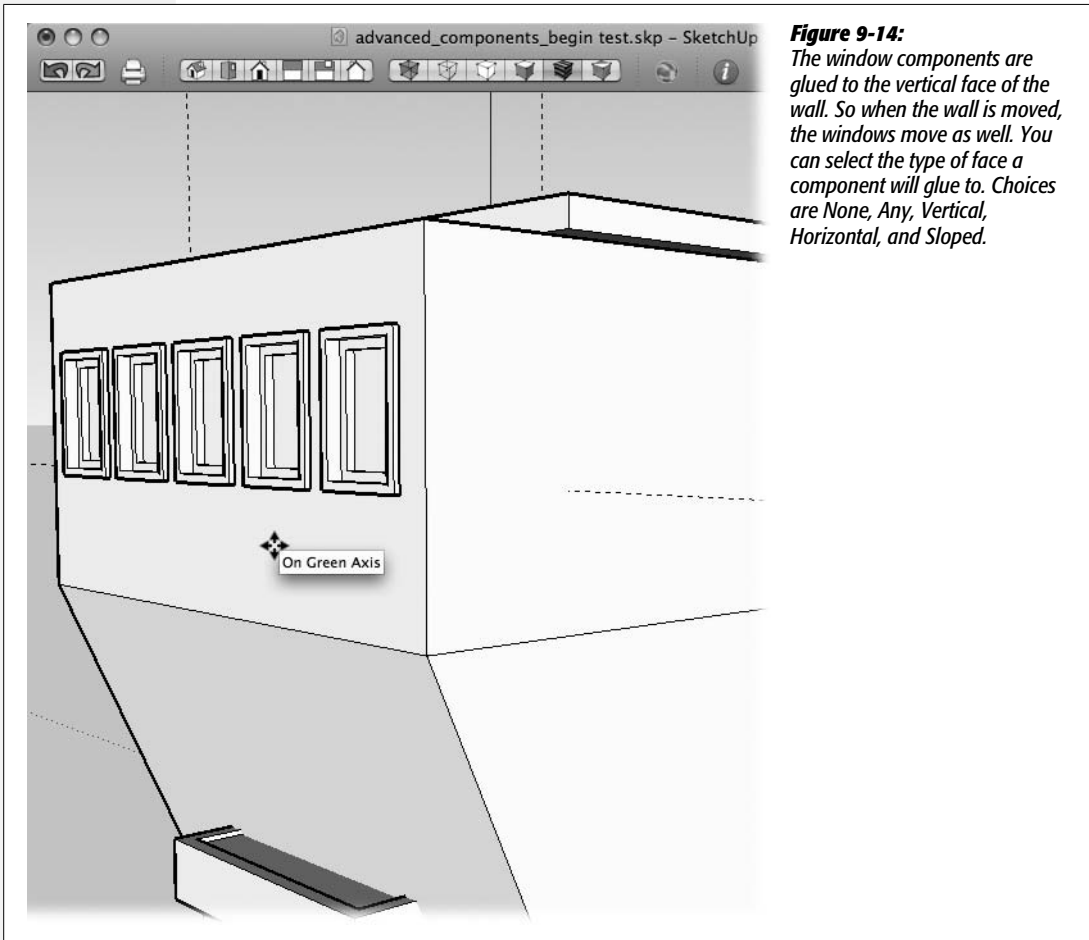

Figure 9-14:
Now with the Move (M) tool, click the face of the wall with the windows, and then pull it forward in the modeling window. Notice how the windows stay glued to the face of the wall. Wherever that wall goes, the window components follow (Figure 9-14).